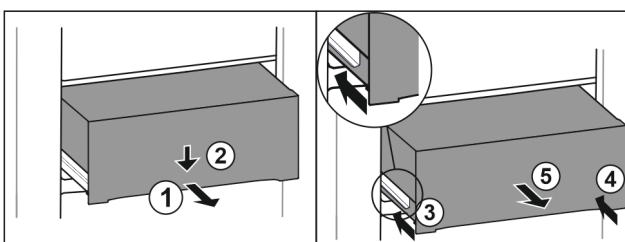

Fig. 139
- ▶ Pull out drawer half-way. Fig. 139 (1)
- ▶ Push the drawer down at the front. Fig. 139 (2)
- ▶ Push the left rail in by about 2 cm. Fig. 139 (3)
- ▶ Push the right rail in by about 2 cm. Fig. 139 (4)
- ▶ Remove drawer to the front. Fig. 139 (5)